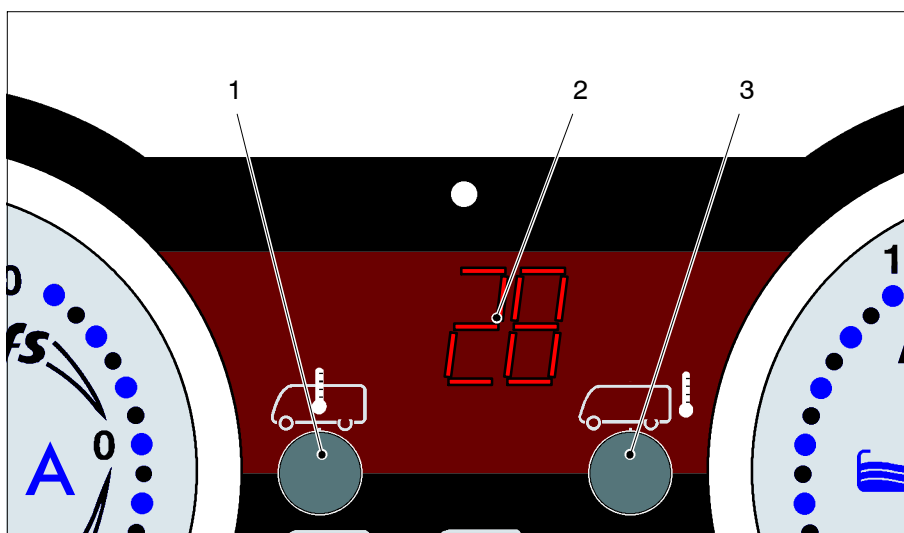

Bild 4 Battery display - example: Living area battery voltage 12.2V
- Press the "Interior Room Temperature" button once (underneath the interior room temperature symbol, Fig 4, Pos. 1).
- Press the "Exterior Temperature" button once (underneath the interior room temperature symbol, Fig 4, Pos. 1).